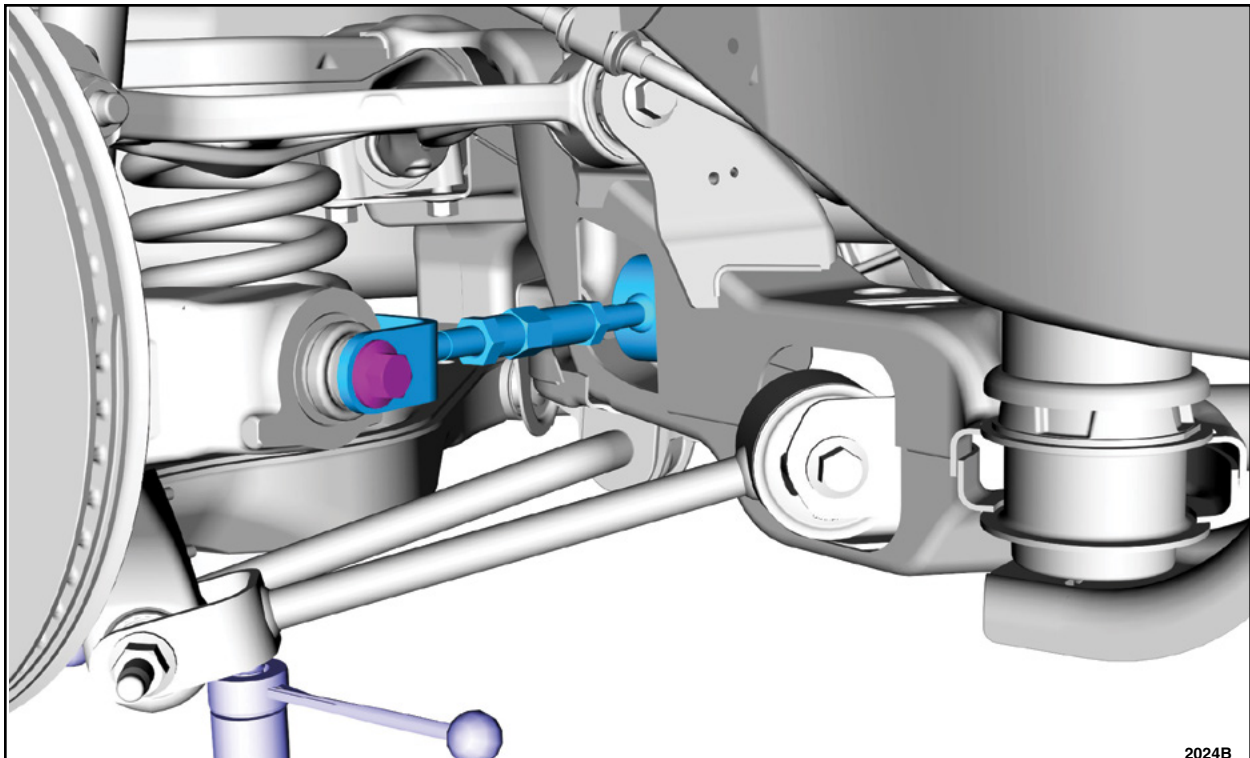

FIGURE 3
5. Remove the toe link-to-wheel knuckle bolt and nut. See Figure 3.